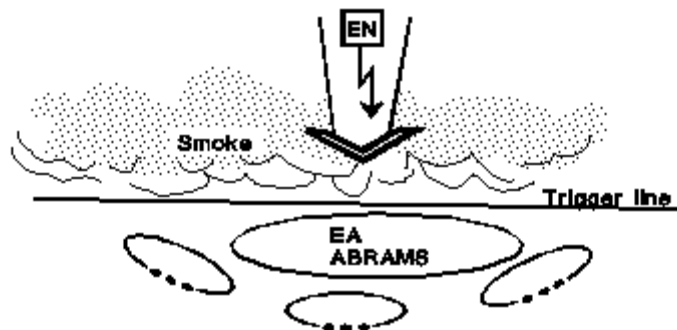

Figure D-5. Using smoke to confuse the enemy and silhouette his vehicles.
- Obscuration. Smoke can be fired on enemy positions to degrade the vision of gunners and known or suspected OPs, preventing them from seeing or tracking targets and thereby reducing their effectiveness. Employed against an attacking force, nonthermal smoke can cause confusion and disorientation by degrading the enemy's command and control capabilities; at the same time, friendly units retain the ability to engage the enemy using thermal sights and range bands. In addition, enemy vehicles become silhouetted as they emerge from the smoke. If smoke employment is planned and executed correctly, this will occur as the enemy reaches the trigger line (see Figure D-5, page D-26).